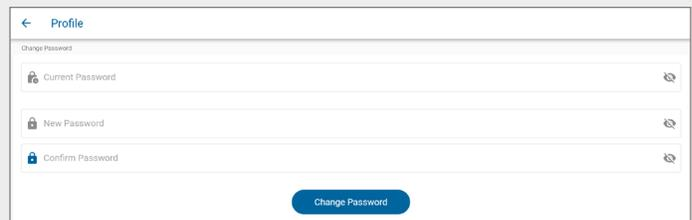

Fig. 130 – Profile screen – change password
3. On the **Profile** screen, type your current password in the **Current Password** field, as shown in Fig. 130.